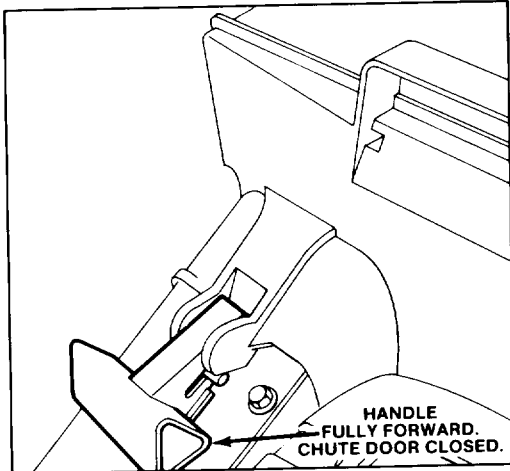

Figure 6
**MULCH**—In summer when grass grows slower and is drier, mulch by closing chute door (Fig. 6). For convenience and protection, keep grass bag on mower.
2. Assure chute door handle is fully forward and pin is engaged in catch (Fig. 6).
5. **EMPTYING BAG**—Stop motor and wait for all parts to stop. Move chute door handle forward to engage the locking pin with catch (Fig. 6). Grasp bag handle and rear of bag and lift bag off mower. Gradually tip bag forward to empty clippings.